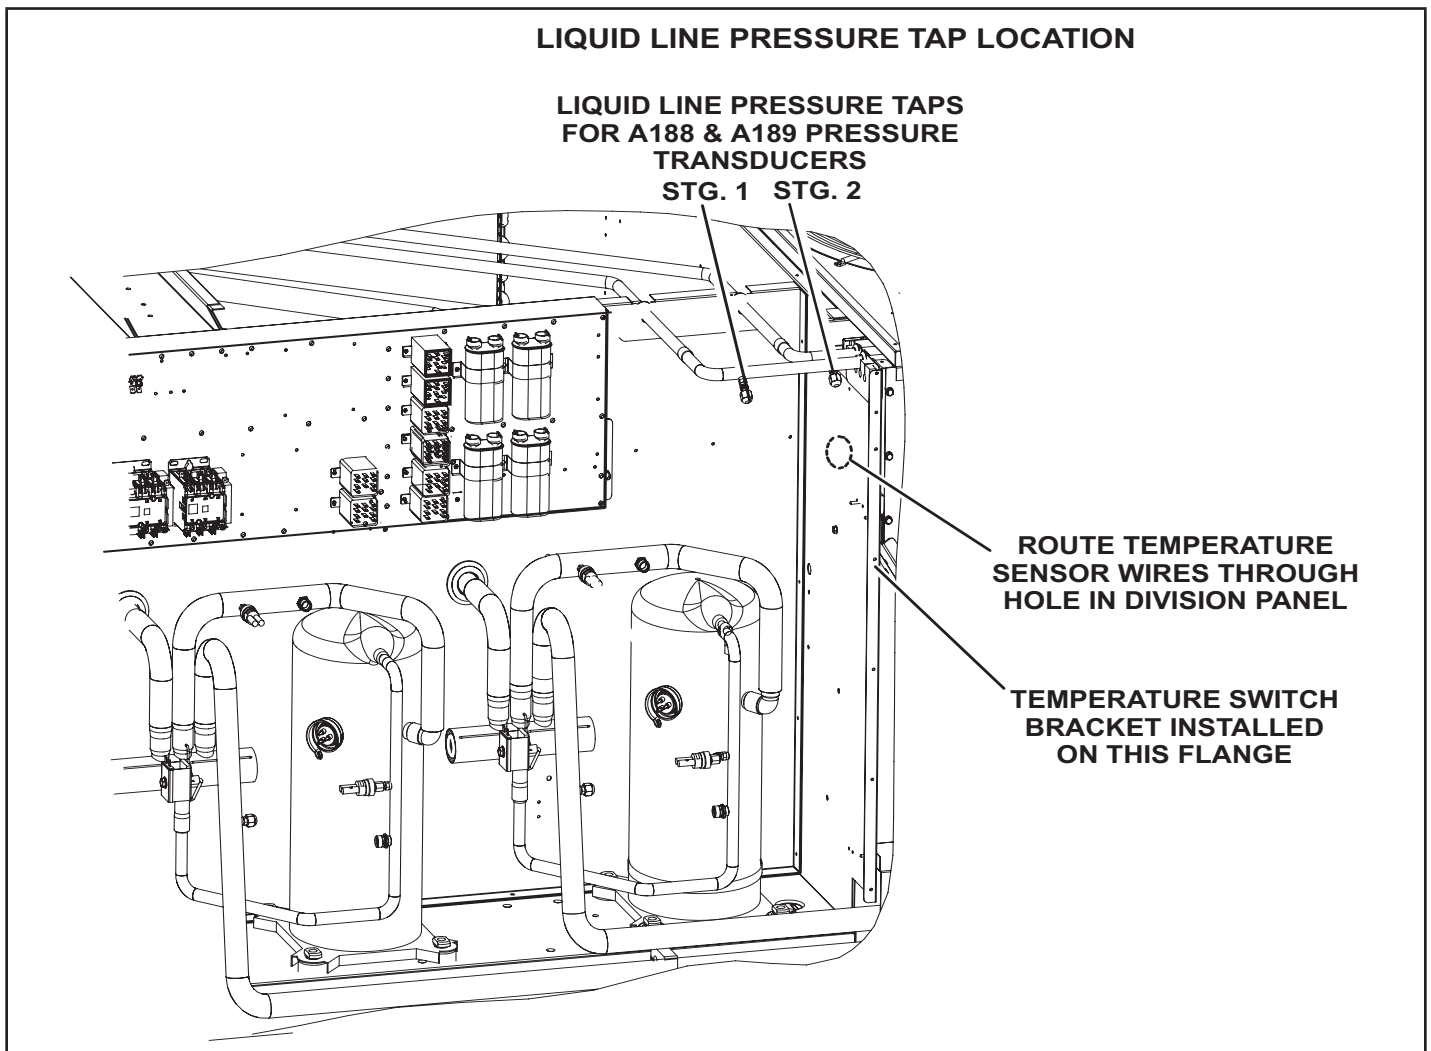

FIGURE 2
- 6 - Install the pressure transducers on compressor 1 (stg. 1) and compressor 2 (stg. 2). liquid line pressure tap as shown in FIGURE 2.